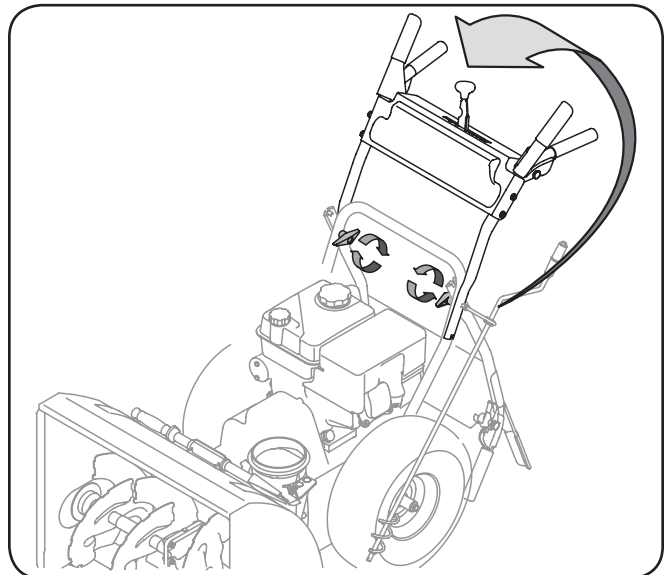

Figure 3-17
2. Observe the lower rear area of the snow thrower to be sure both cables are aligned with roller guides before pivoting the handle upward. See Fig. 3-17.